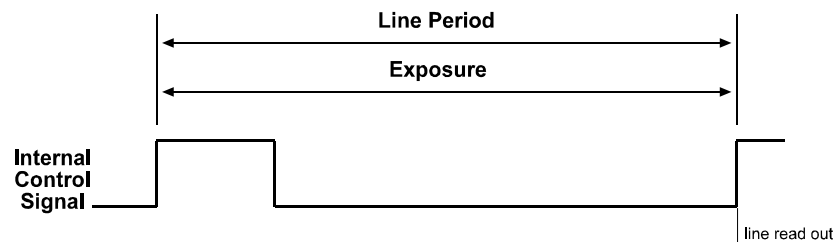

Figure 3-5: Free-run, Edge-controlled Mode
- In **free-run, edge-controlled mode**, the pixels are exposed and charge is accumulated over the full line period (from rising edge to rising edge of the internal control signal). The falling edge of the control signal is irrelevant. The line is read out and transferred on the rising edge of the internal control signal (see Figure 3-5). The line period is determined by the setting for the line period parameter.